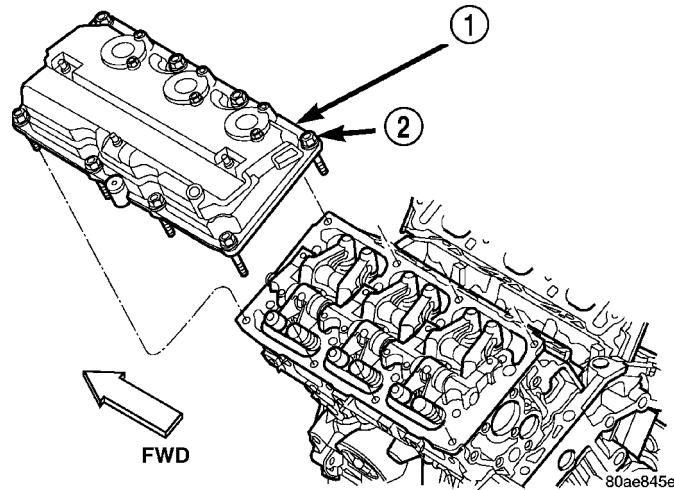

Fig. 24 CYLINDER HEAD COVERS
(7) Remove cylinder head cover bolts and remove cover (Fig. 24).
(3) Install cylinder head cover bolts and tighten to 12 N·m (105 in. lbs.) (Fig. 24).